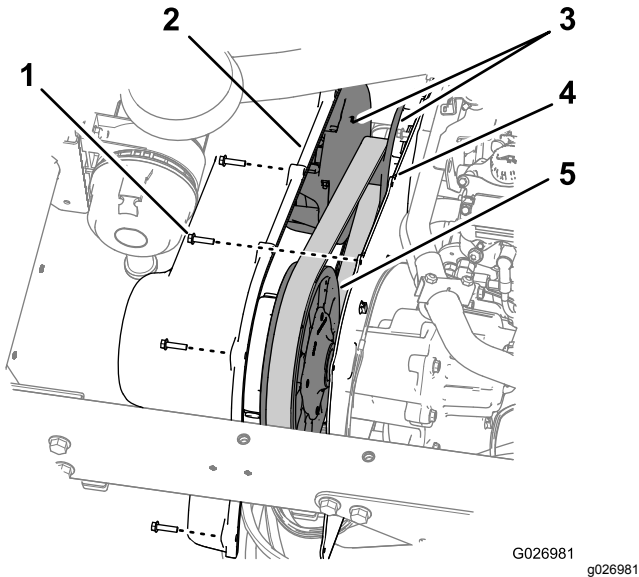

Figure 64
1. Remove the 9 hex-washer bolts (1/4 x 1 inch) that secure the transmission cover to the mounting plate of the transmission (Figure 64).
5. Align the holes in the transmission cover with the holes in the mounting plate (Figure 64).
6. Secure the cover to the mounting plate (Figure 64) with the 9 hex-washer bolts (1/4 x 1 inch) that you removed in step 1, and torque the bolts to 10.2 to 12.4 N·m (90 to 110 in-lb).